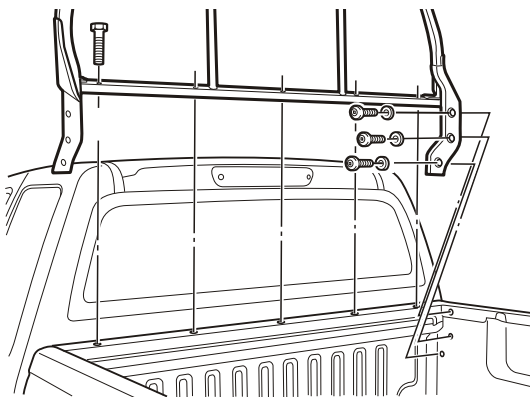

Figure 1
1. Use an impact driver to remove the torx bit bolts from the rear of the vehicle tray sides and to remove the 6 bolts holding the vehicle header bar. Remove the bolts retaining the header bar across front top edge of the tray. Refer to figure 1.